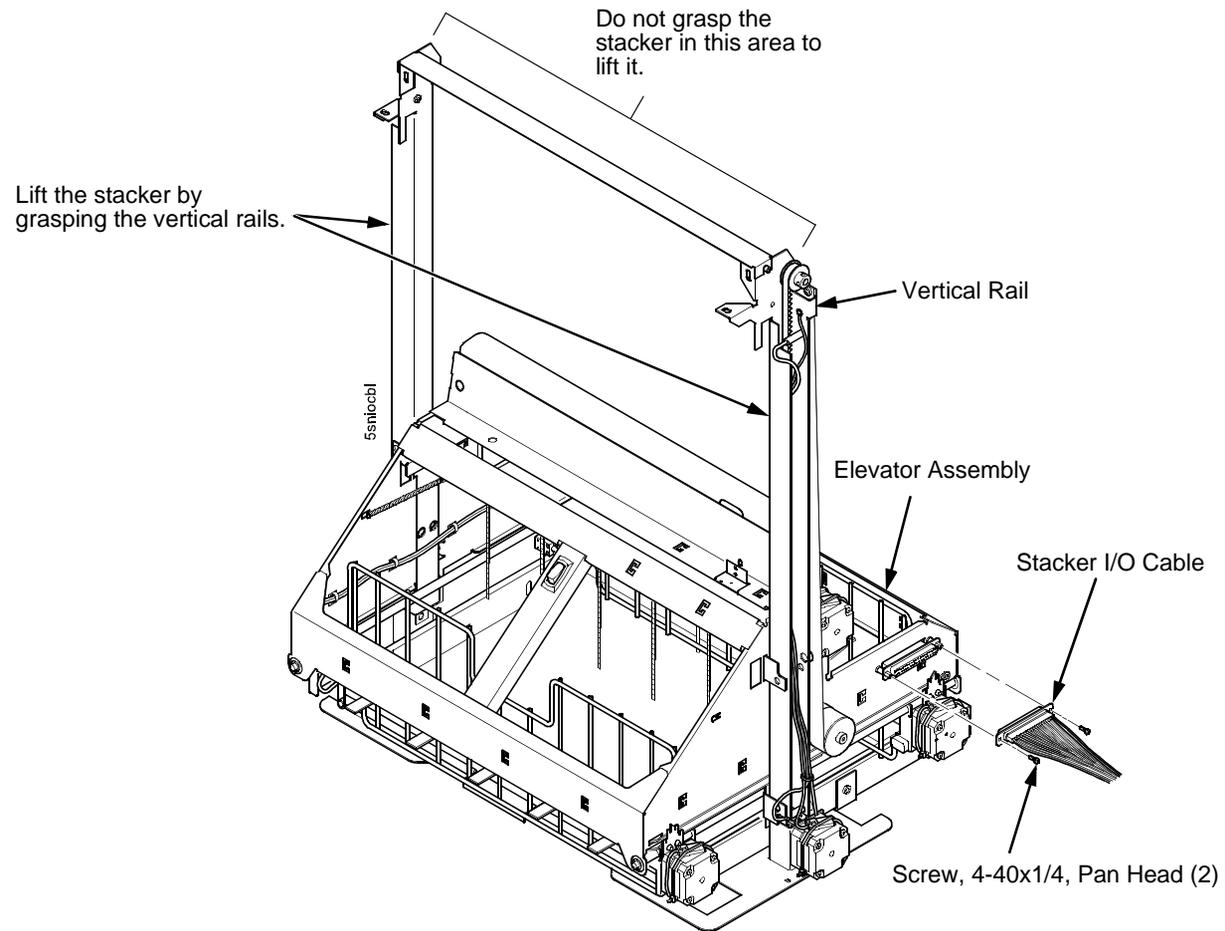

Figure 90. Connect the Stacker I/O Cable to the Stacker Elevator
17. Position the elevator assembly at the bottom of the vertical rails. (Figure 90.)
18. Connect the elevator I/O cable to the elevator assembly and install the two 4-40 x 1/4 inch screws, as shown in Figure 90.